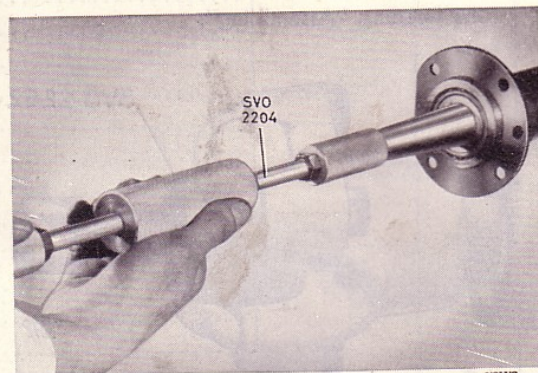

Fig. 10. Removing drive shaft
2. Pull out the drive shaft, see Fig. 10. Use puller SVO 2204.
2. Pull out the drive shaft, see Fig. 10. Use tool SVO 2204. Check and, if necessary, replace the oil seal.